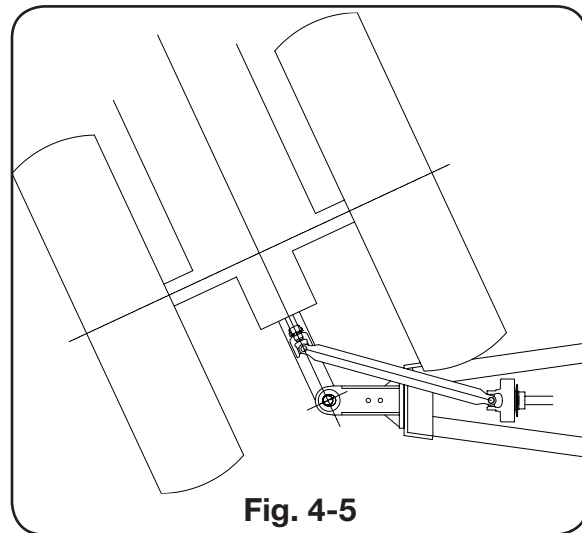

Fig. 4-5
6. Position the tractor to obtain the tightest turning angle, relative to the cart (Fig. 4-5).